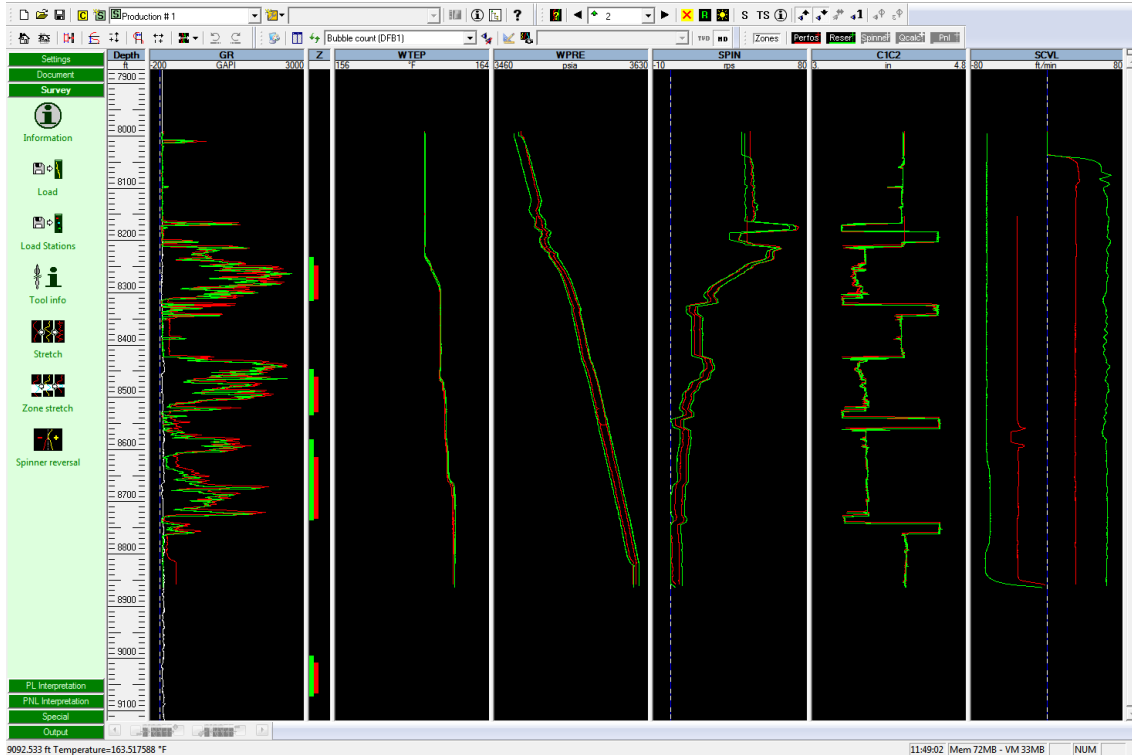

Fig. B05.4 • Screen re-organized
- Tile the plots. The screen is re-organized as on Fig B05.4.